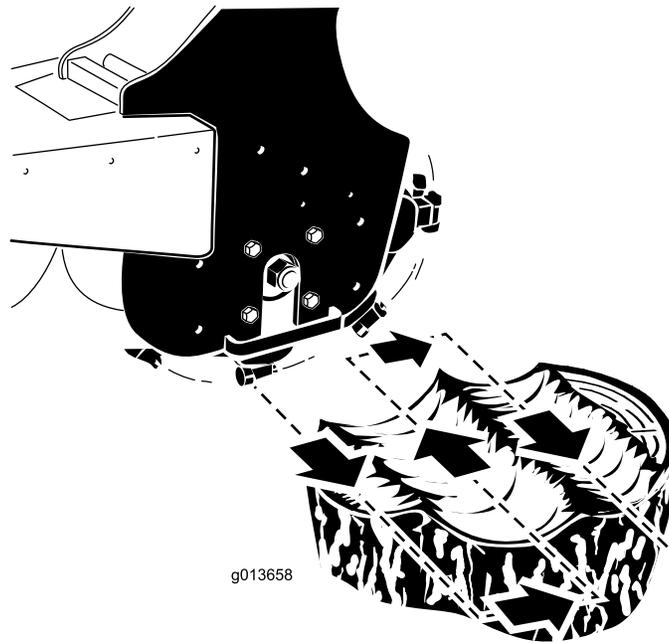

Figure 9
4. Position the grinder on the left side and behind the stump (Figure 9).
5. Swing the grinder toward you using the attachment tilt lever, grinding at a depth of 1/4 to 2 inches (0.5 to 5 cm), depending on the hardness of the wood (Figure 9).
6. Swing the grinder back out (Figure 9), lower it 1/4 to 2 inches (0.5 to 5 cm) and repeat steps 4 through 6 until you have ground down a few inches.
8. Move the grinder to the right (Figure 9).